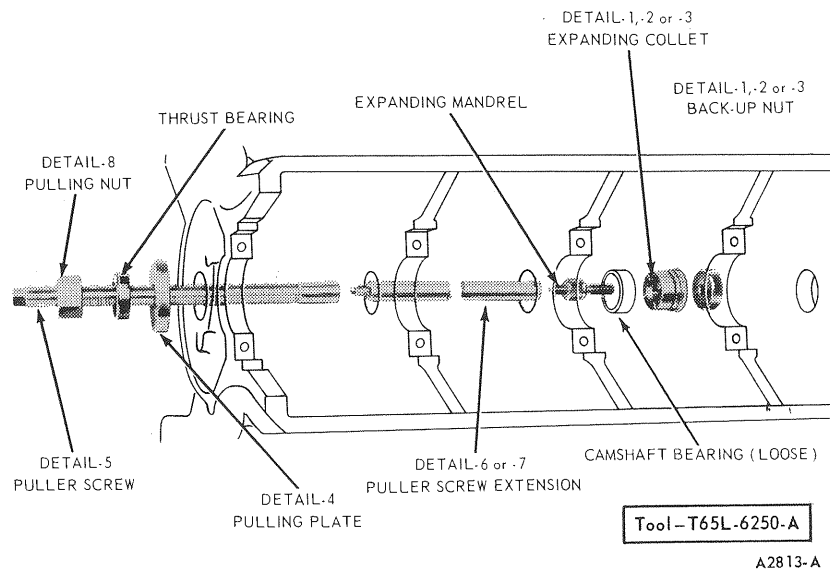
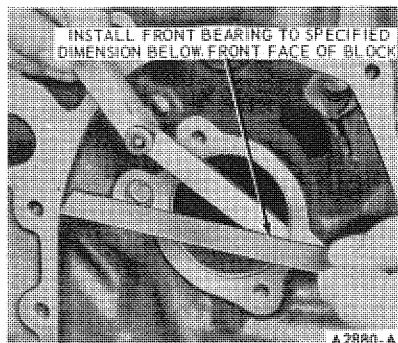

FIG. 67 Camshaft Bearing Replacement
FIG. 68 Camshaft Front Bearing Replacement
2. Remove the camshaft rear bearing bore plug. Remove camshaft bearings (Figure 67).
1. Position the new bearings at the bearing bores with the oil holes aligned and press them in place with the tool shown in Figure 67. Be sure to center the pulling plate and puller screw to avoid damage to the bearing. **Failure to use the correct expanding collet can cause severe bearing damage. Be sure the front bearing is installed the specified distance below the front face of the cylinder block (Figure 68).**